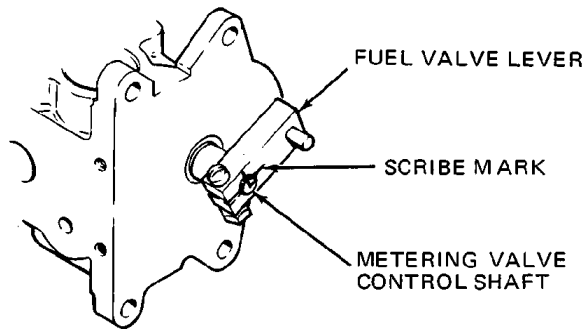

Figure 3-1. Location of Scribe Mark for Alignment During Assembly
1. Before removing the lever (15-158), make a mark on the shaft and lever for use as an index during assembly (see Figure 3-1).